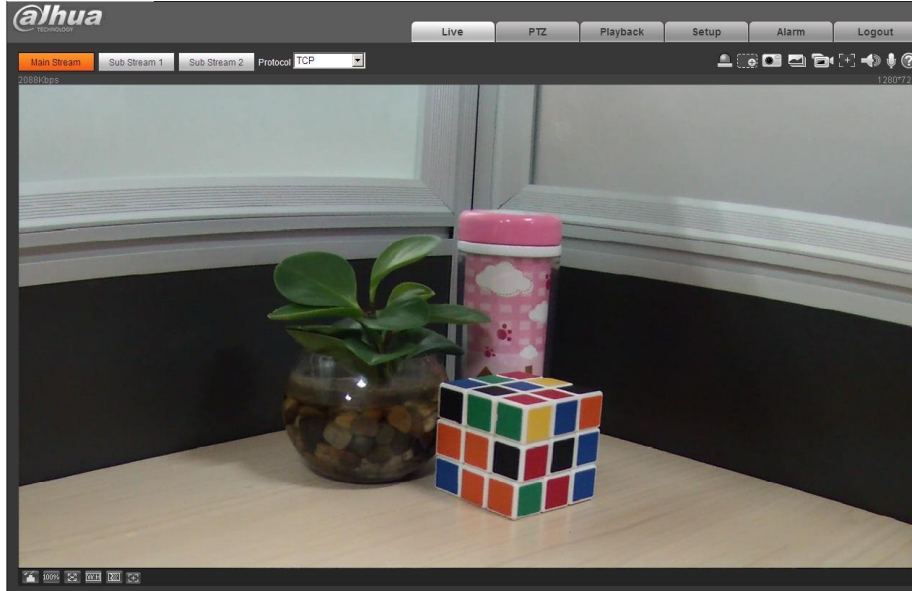

Figure 3-4
**Step 3** Click Here to Download Plug-in, and then install controls according to the system prompt. See Figure 3-4 for the WEB main interface.